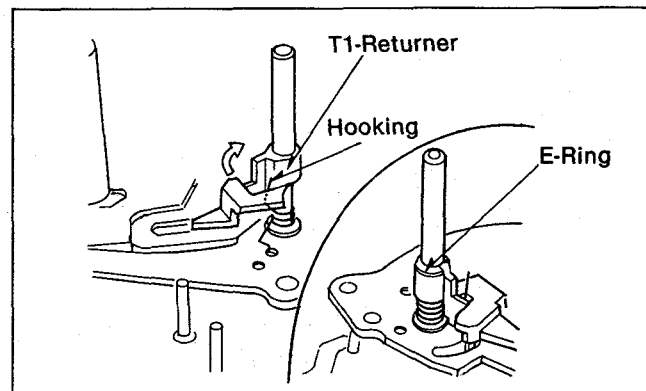

Fig. M23
- (5). Make sure of up side of T1-Returner, after that install the T1-Returner. Then insert hooked end(long side) of T1-Returner Spring in the hole of T1-Returner. Then, turn the T1-Returner to clockwise. Finally, insert the E- ring as shown in Fig. M23.